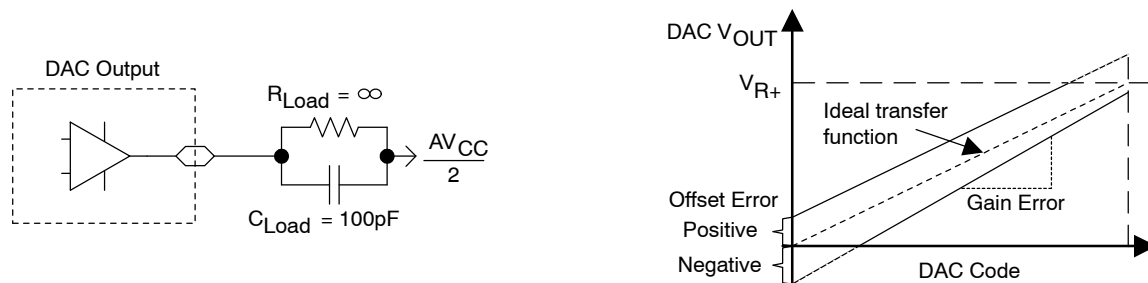

**Figure 20. Linearity Test Load Conditions and Gain/Offset Definition**
**12-bit DAC, linearity specifications (see Figure 20)**